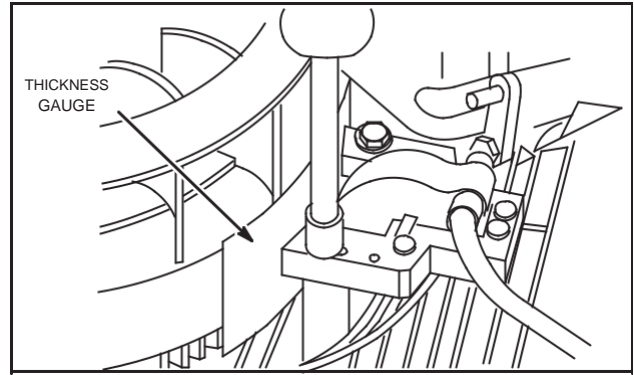

Fig. 14 – Adjust Armature Air Gap
2. Place thickness gauge, .008"-.012" (0.20-.30 mm) between magnet and armature laminations, Fig. 14.